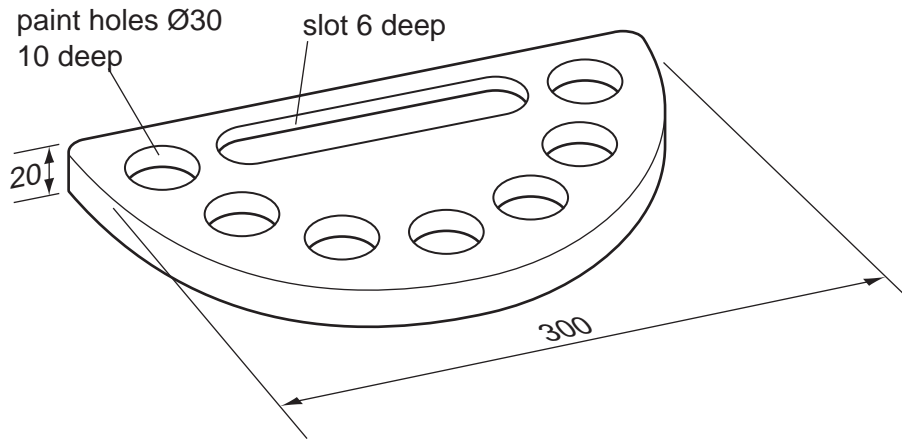

Fig. 3
- 13 Fig. 3 shows a former used to vacuum form a paint palette from polystyrene sheet. The former is made from MDF.